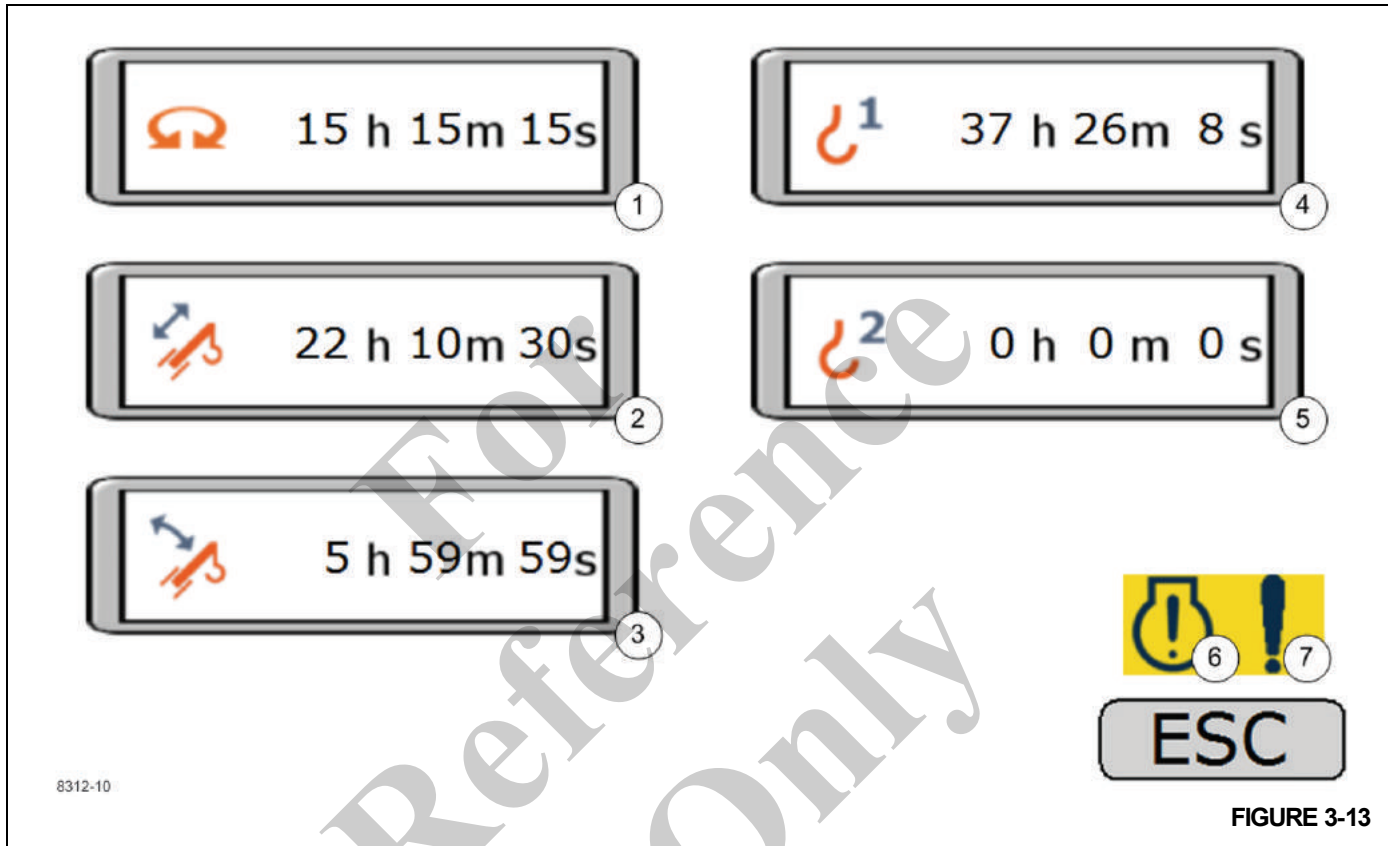

FIGURE 3-13
Crane Function Hours Screen (Figure 3-13)
Swing Function Time (1) (Figure 3-13)